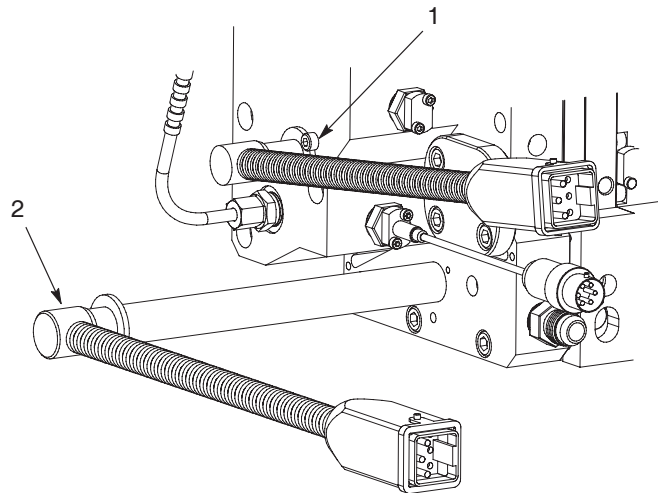

Figure 7-91 Removing a heater
5. See Figure 7-91. Carefully insert the heaters until they are completely seated and use an M3 hex wrench to tighten secure the heater screws.